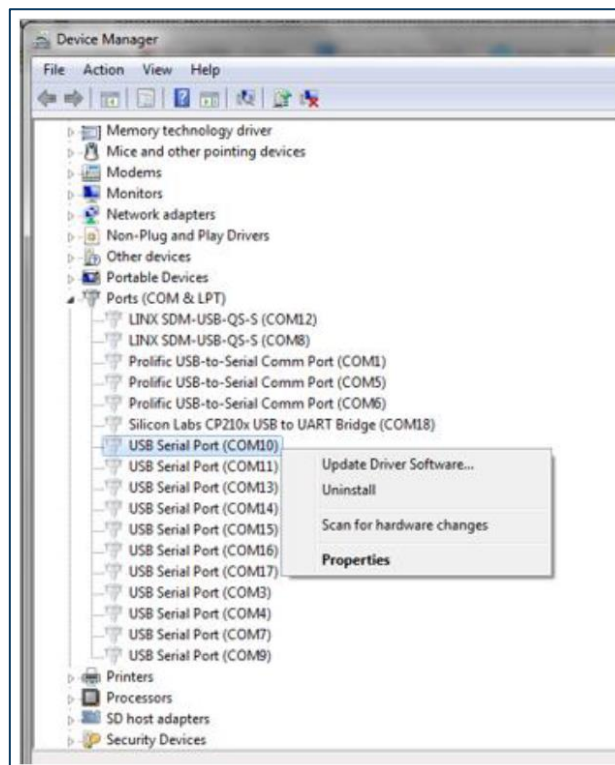

Fig. 19 – COM port uninstall
4. If you expand the section on COM ports, all the COM ports that have ever been created will be displayed, the non-present ones being in gray. You can uninstall anything that you don't want (right click, select uninstall). See Figure 19.